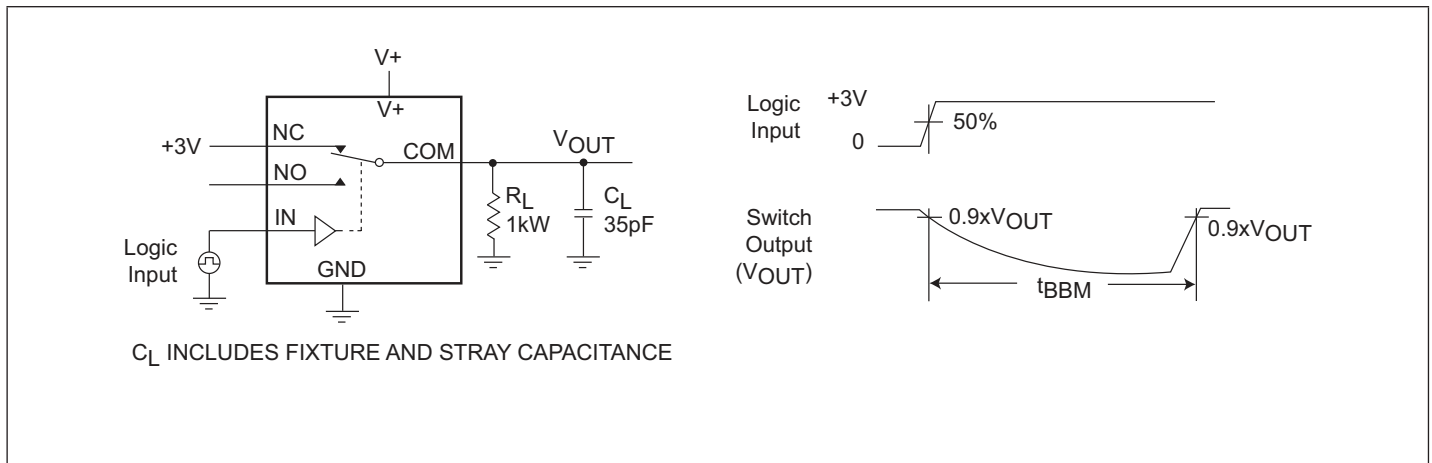

Figure 3. Break-Before-Make Interval
- Off Isolation = $20\log_{10} [V_{COM} / (V_{NO} \text{ or } V_{NC})]$. See Figure 3.